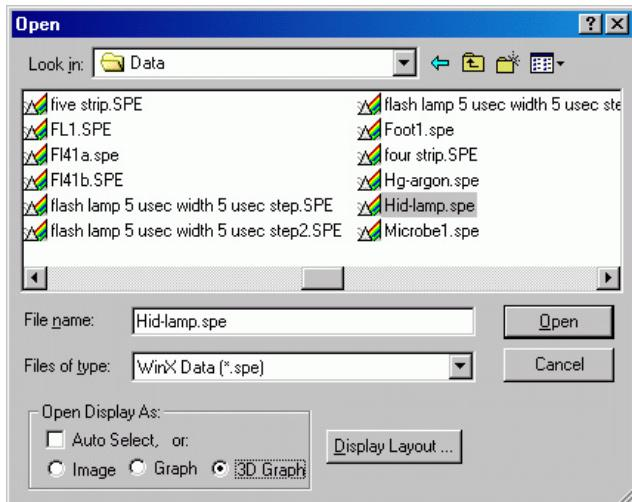

Figure 76. Open dialog box
- From the File menu select **Open**. The Open dialog box (Figure 76) will appear, allowing you to select the image to be opened. The Look-In box provides a browser function so that the directory where the images are located can be easily accessed. By default the data directory is a subdirectory of the WinSpec program directory. Files of the specified type (the WinSpec/32 data type is *.spe) in the current directory and any subdirectories are listed in the box below the directory name.